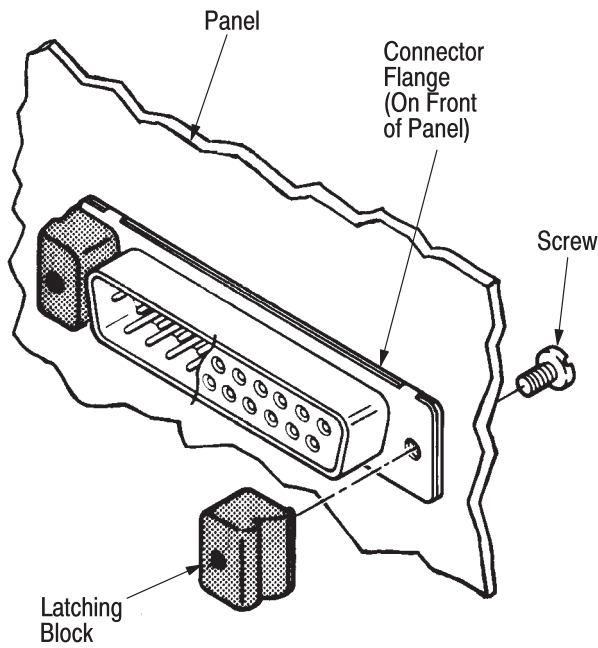
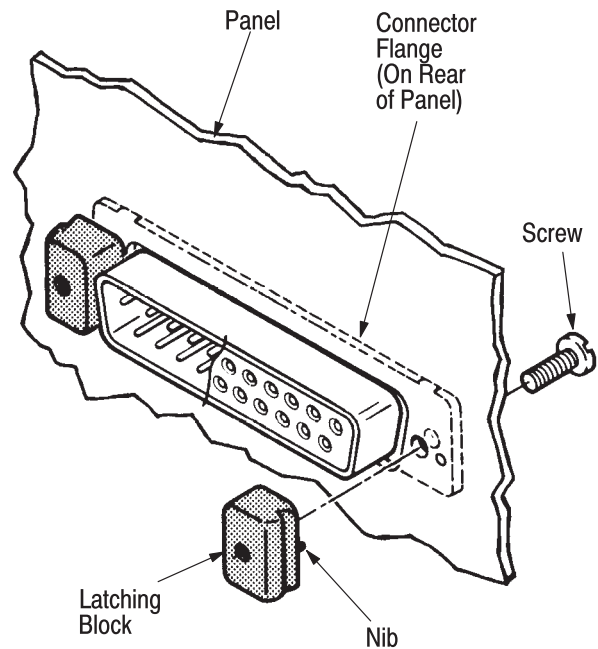

Figure 3
Figure 4
Latching blocks are available for two types of connector mounting configurations: front panel-mounted (see Figure 3), and rear panel-mounted (see Figure 4). The latching blocks
#### 3.1. Front Panel-Mounted Connector (Figure 3)
- Position the connector on the front of the prepared panel (if used), then place the latching block on the connector flange. See Figure 3. Refer to the instruction sheet provided with the connector for information concerning panel cutout.
**3.2. Read Panel-Mounted Connector (Figure 4)**
- Position the connector behind the prepared panel, then place the latching block on the front of the panel (see Figure 4). Refer to instruction sheet provided with the connector for information concerning the panel cutout and 1.02 mm [.040 in.] dia positioner required for the nib on the block.